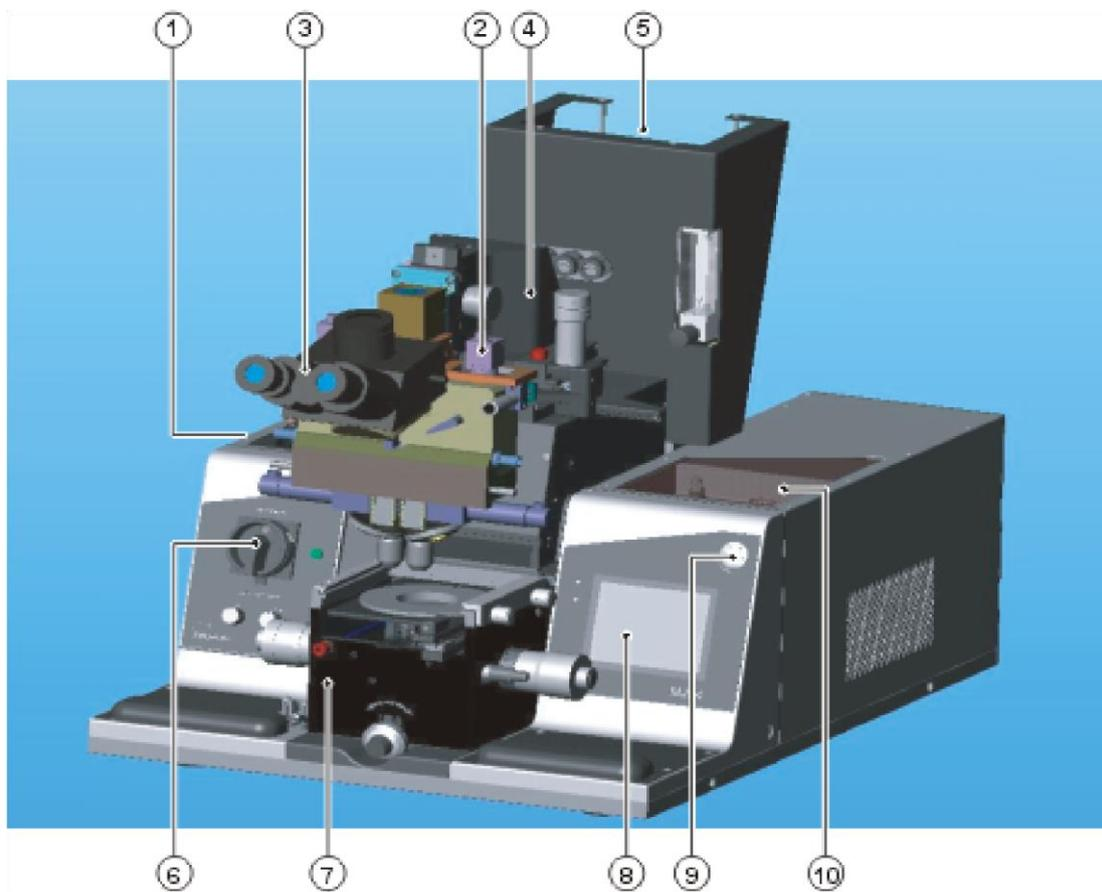

Fig. 1 Suss MJB4 Mask Aligner
1. Switch the red isolation switch to on (red, on the front plate, left - No 6, Fig. 1).
2. Press the 'ON/OFF' button by the touchscreen (front plate, right - No 9, Fig. 1).